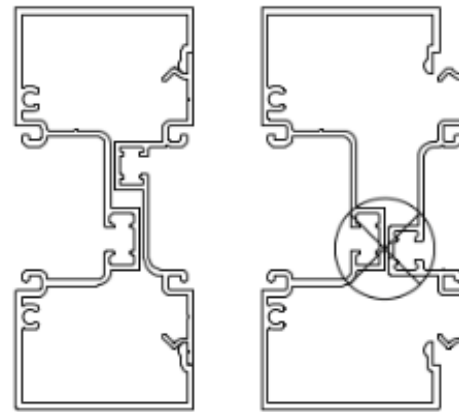

Figure 9
3. Special care should be taken to insure that mullions of adjoining sections will fit together properly after assembly (see figure 9). Be sure that all openings have at least one "Deep Pocket" jamb member or proper assembly and glass installation will be impossible.